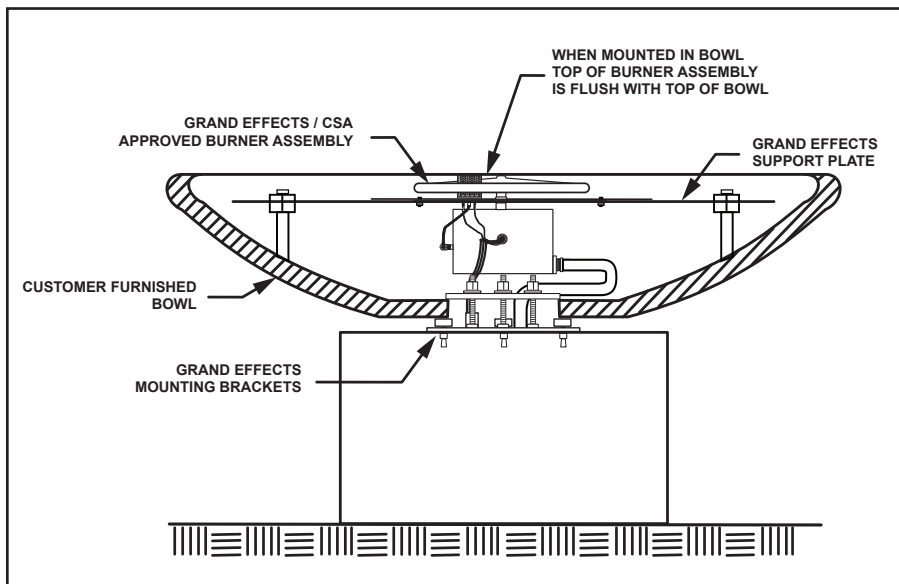

Figure 6. Customer-supplied Bowl
IMPORTANT: When customers supply their own bowl, the burner assembly must be installed as shown in Figure 6. The support plate includes four (4) all-threaded rods and nuts. The nuts must be set to accommodate the 2" media depth. The mounting bracket must be installed for proper cooling and drainage. The burner assembly must be installed flush with the top of the bowl. The mounting bracket must be installed for proper cooling of the burner assembly. The warranty may be voided if the mounting bracket is not installed.